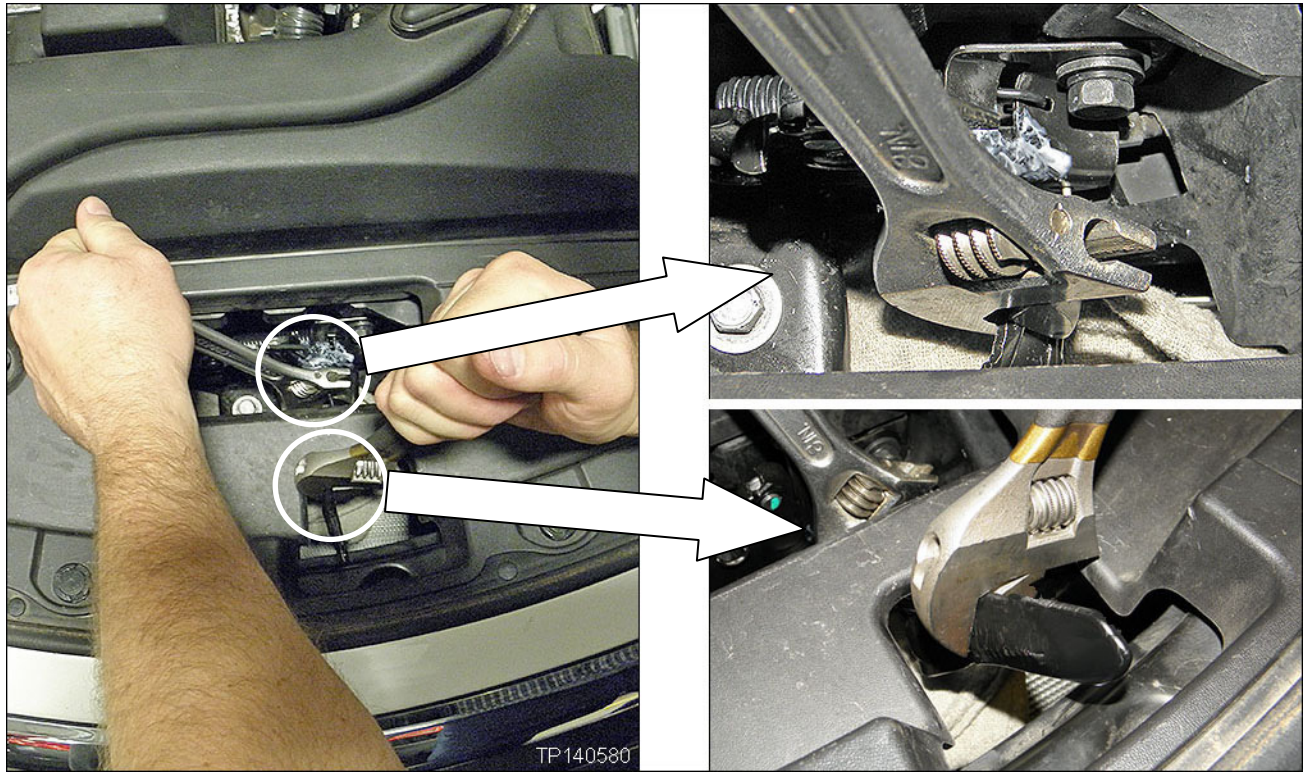

Figure 15
- a. Position two 8-inch adjustable wrenches on the secondary hood latch lever as shown in Figure 15.